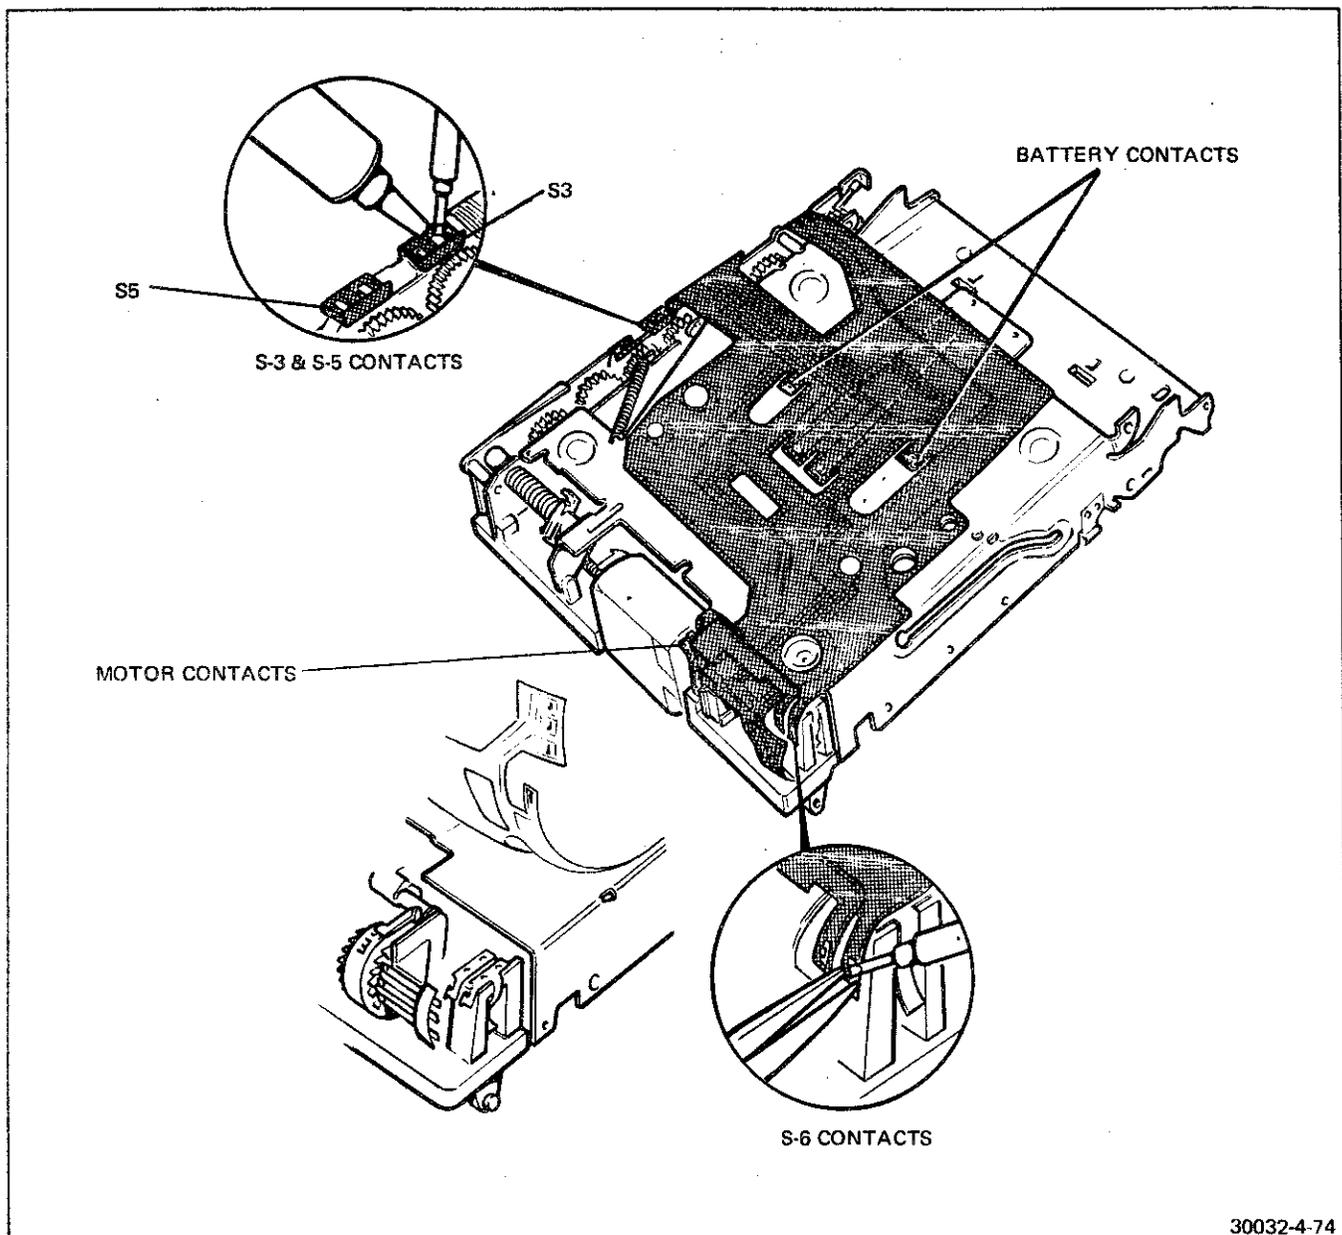

FIGURE 4-74 SOLDER POINT IDENTIFICATION
- Using a solder remover, remove the solder from the two battery contacts. See Figure 4-74. In most cases, removing the solder will not completely free the flex circuit connections. Use tweezers and a soldering iron, heat the connection, and lift off the flex with the tweezers.
15. Using the solder remover and, if necessary, the tweezers and soldering iron, unsolder the S6 contacts. See Figure 4-74.
17. In like manner, disconnect the two motor contacts. See Figure 4-74.
22. Dress the end of the flex circuit tab between the third switch contact and the inner surface of the frame. See Figure 4-74.